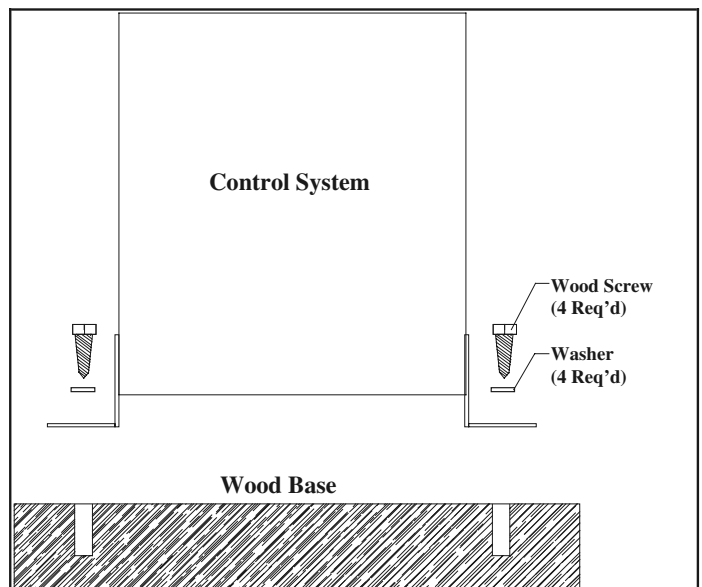

Figure 2: Wood mount
6. Screw the system down and secure it tightly (see Figure 2).